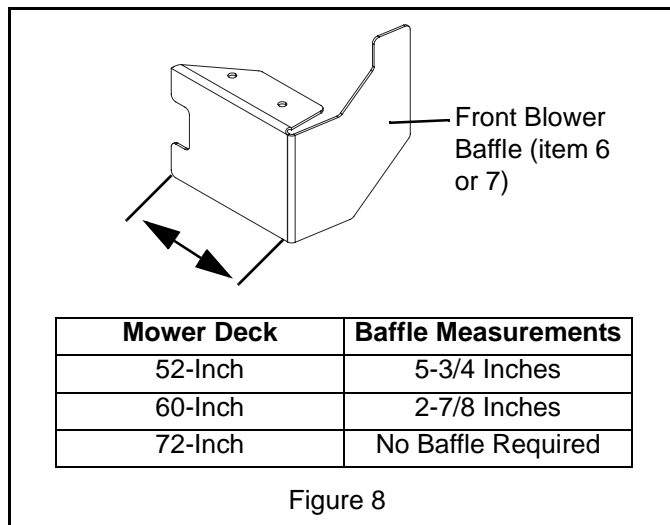

Figure 8
2. Choose the appropriate blower baffle according to the table below (Figure 8) and then install the blower baffle (item 6 or 7) with two 3/8-16 x 1/2 tapping screws (item 26).